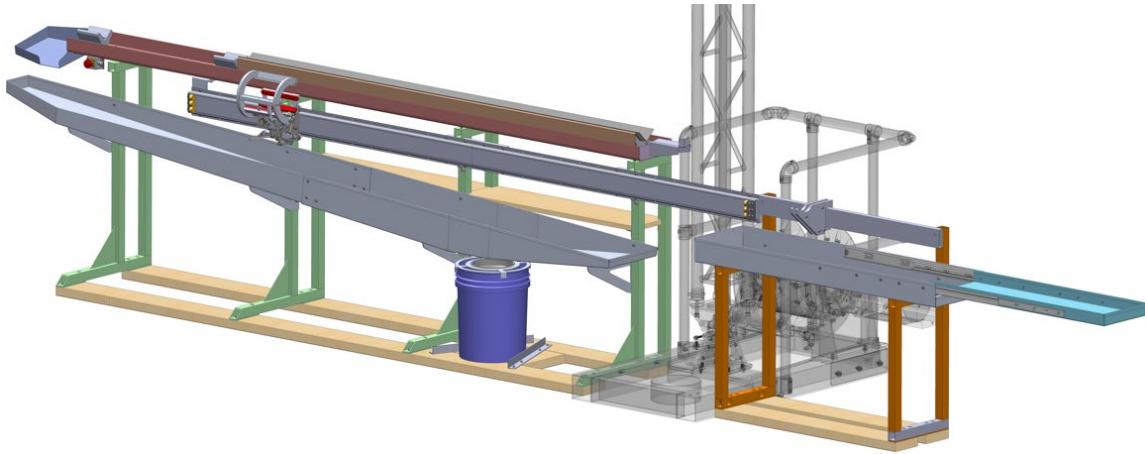

Figure 27. Core Processing Line assembly.
- 2) Place the two short 2x6 wood footers on the right side of the winch, as shown in Figure 27.
- 8) Place the two long 2x6 wood footers on the left side of the winch, as shown in Figure 27.